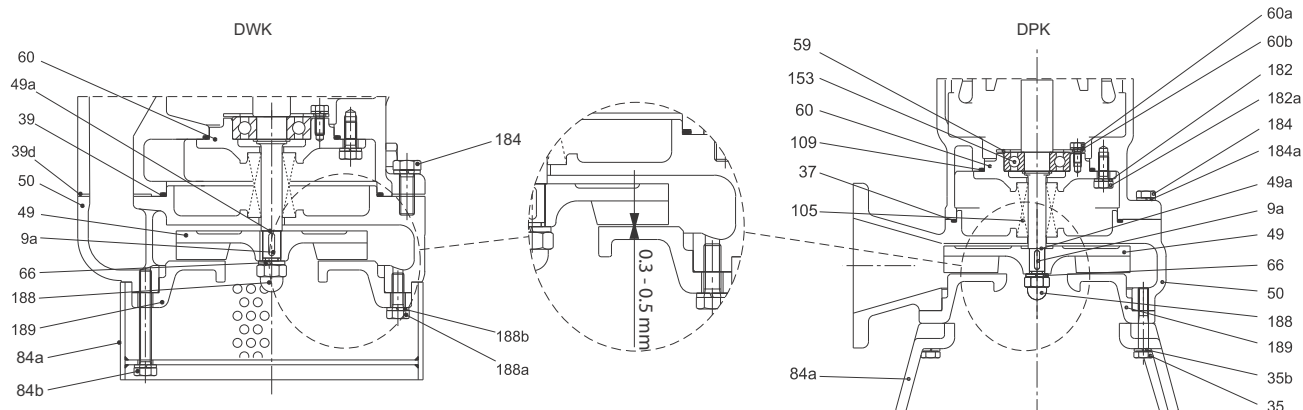

Fig. 13 Impeller and pump housing assembly and impeller clearance
1. Fit and lubricate O-ring (pos. 37 or 39) on pump housing (pos. 50).
2. Fit pump housing (pos. 50) and tighten screws (pos. 184) according to torques in table in section 3. Tightening torques.
3. Fit spacer rings (pos. 49a) to shaft.
4. Fit key (pos. 9a) in shaft.
5. Fit impeller (pos.49) on shaft and tighten nut (pos. 188) according to torques in table in section 3. Tightening torques.
6. Fit suction cover (pos.189) to pump housing and tighten screws (pos. 188a) according to torques in table in section 3. Tightening torques.
7. Check impeller clearance. See fig. 13. The impeller clearance must be between 0.3 and 0.5 mm. If the impeller clearance is outside this range, dismantle the impeller and add or remove spacer rings to obtain the right clearance. Then check the clearance again.
8. Fit suction strainer/ring stand (pos. 84a) and tighten screws (pos. 84b for DWK, pos. 35 for DPK) according to torques in table in section 3. Tightening torques.